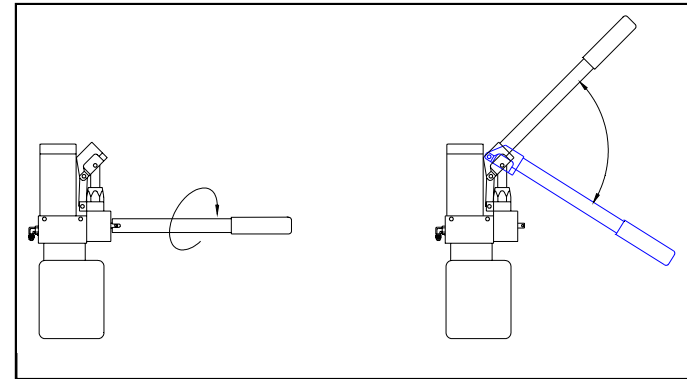

FIGURE 2-11: MANUAL BACK-UP PUMP – RAISE PLATFORM
- 1) Refer to **Figure 2-11**. Check pump release valve to be certain it is closed.
- 1) Refer to **Figure 2-11**. Check pump release valve to be certain it is closed. DO NOT OVER TIGHTEN VALVE.